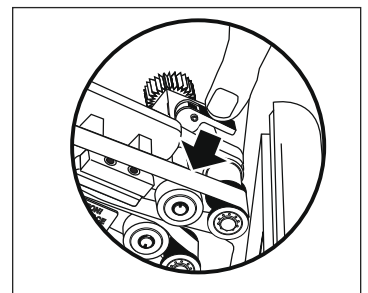

Figure 20
6. Tighten belts by locking belt release lever in place. (See Figure 20)